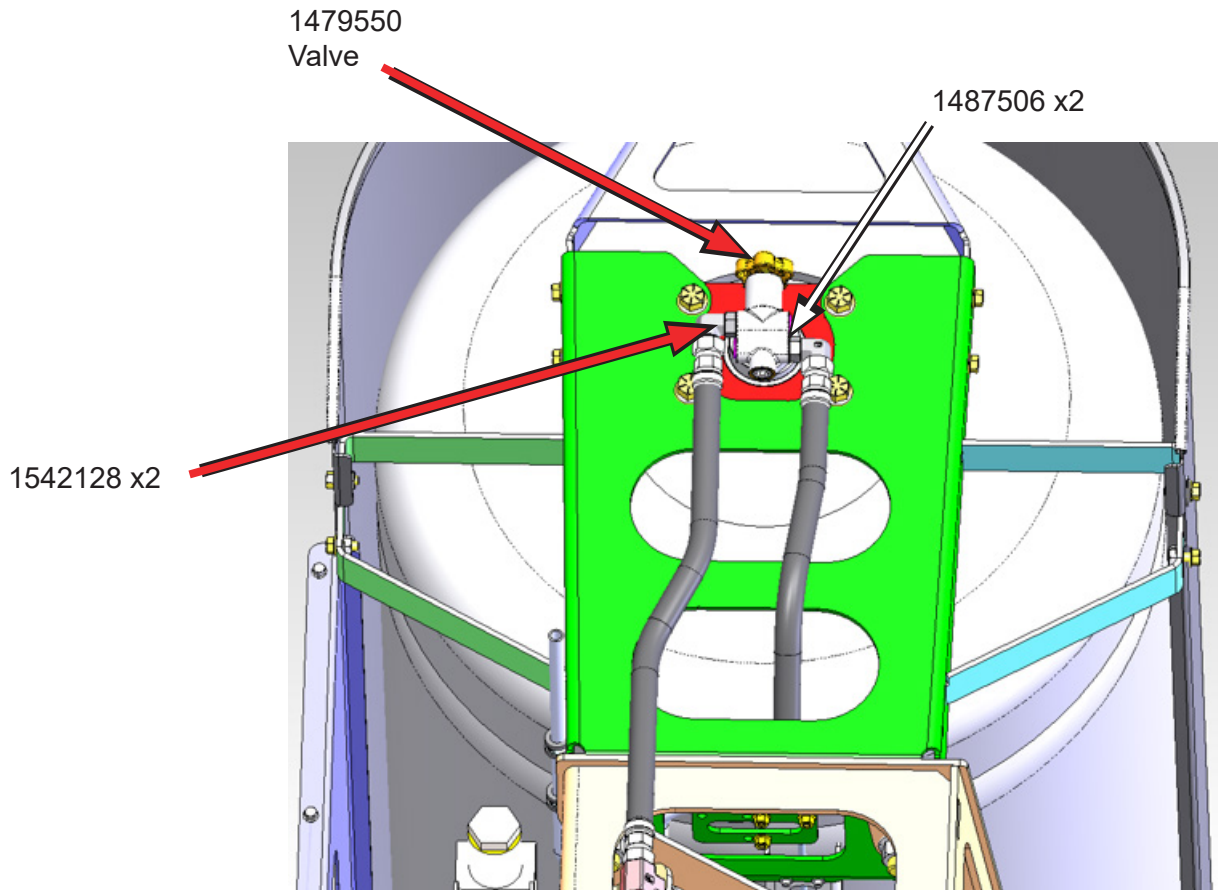

Figure 2
5. Install replacement fittings, plugs, and new OMB valves according to the illustration below (Figure 2) on each tank.